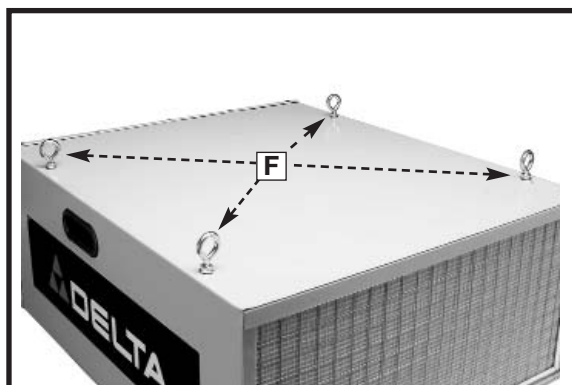

Fig. 6
4. Thread the eye-bolts (F) Fig. 6 into the four holes where the screws were removed in **STEP 2**.